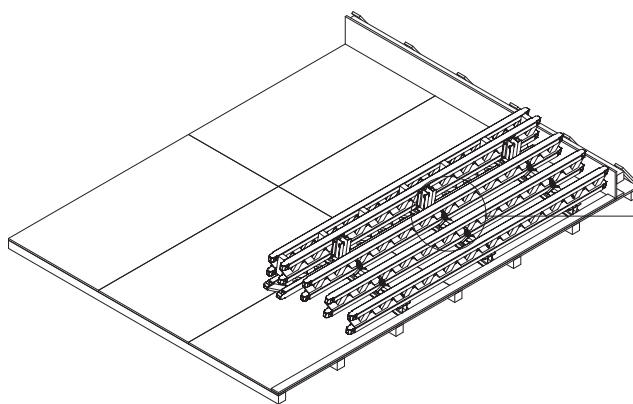

Fig. A2.06
6. Place and align intermediate girder and secure using the HB Hook Straps. (Fig. A2.06)